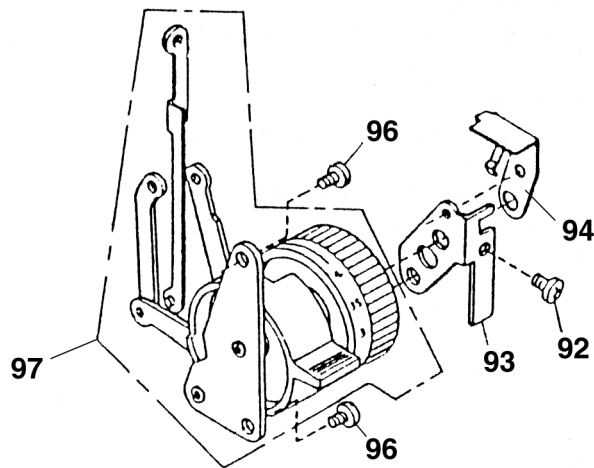

Fig. 29b
- Turn out Phillips screw 92 (fig. 29b).
- Turn out both Phillips screws 96 (fig. 29b).
- Refit stitch length control plate 93 with spring 94 (fig. 29b)